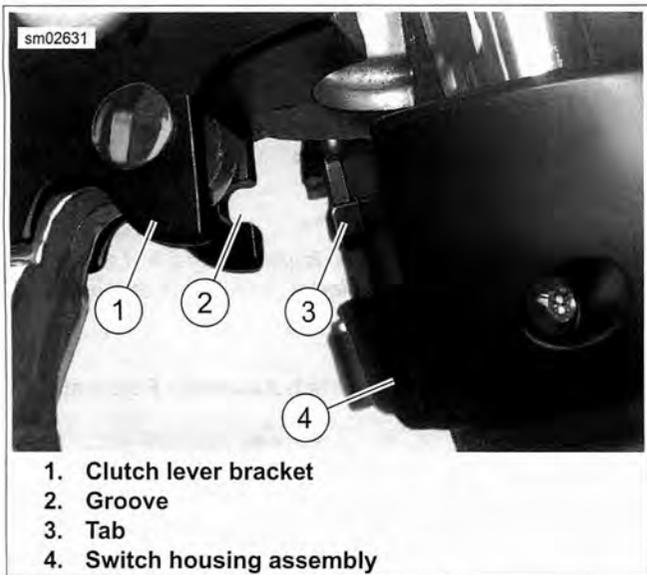

Figure 6-154. Clutch Lever Bracket
5. See Figure 6-154. Position the clutch hand lever assembly inboard of the switch housing assembly, engaging the tab (3) on the lower switch housing in the groove (2) at the bottom of the clutch lever bracket.